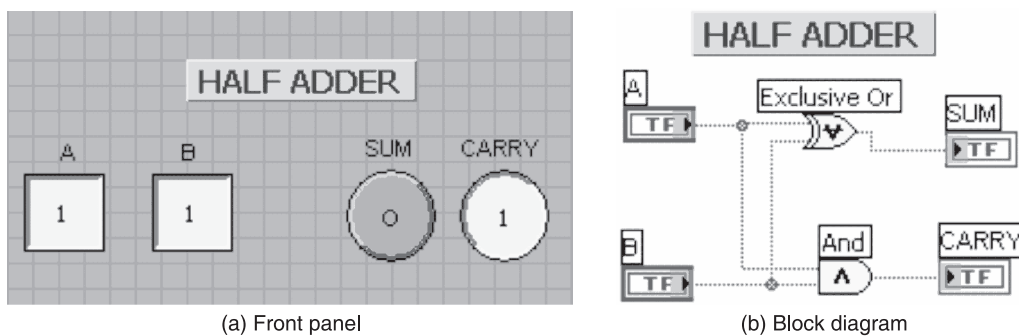

Figure P2.14
**Solution** The front panel and block diagram are shown in Figures P2.14(a) and P2.14(b) and the half adder can be checked.